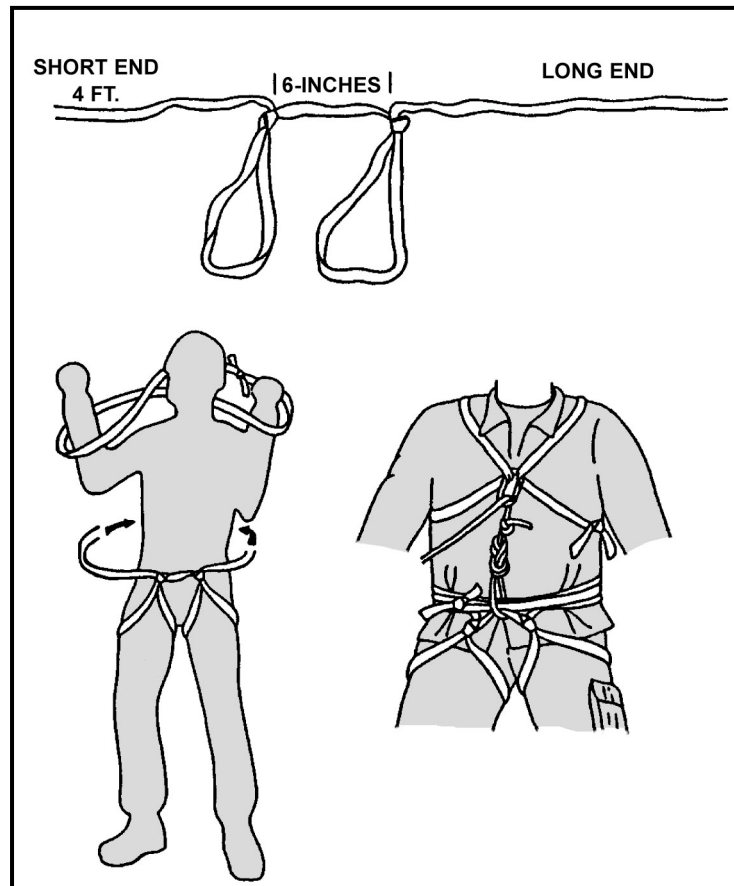

Figure 6-20. Improved seat and chest harness.
(2) The bowline-on-a-coil is a safe and effective method for attaching to the rope when the terrain is low-angled, **WITHOUT THE POSSIBILITY OF A SEVERE FALL**. When the terrain becomes steeper, a fall will generate more force on the climber and this will be felt through the coils of this type of attachment. A hard fall will cause the coils to ride up against the ribs. In a severe fall, any tie-in around the waist only could place a “shock load” on the climber’s lower back. Even in a relatively short fall, if the climber ends up suspended in mid-air and unable to regain footing on the rock, the rope around the waist can easily cut off circulation and breathing in a relatively short time.
(3) The climbing harness distributes the force of a fall over the entire pelvic region, like a parachute harness. Every climber should know how to tie some sort of improvised climbing harness from sling material. A safe, and comfortable, seat/chest combination harness can be tied from one-inch tubular nylon.
c. **Improvised Seat Harness.** A seat harness can be tied from a length of webbing approximately 25 feet long (Figure 6-20, page 6-30).
(1) Locate the center of the rope. Off to one side, tie two fixed loops approximately 6 inches apart (overhand loops). Adjust the size of the loops so they fit snugly around the thigh. The loops are tied into the sling “off center” so the remaining ends are different lengths. The short end should be approximately 4 feet long (4 to 5 feet for larger individuals).
(2) Slip the leg loops over the feet and up to the crotch, with the knots to the front. Make one complete wrap around the waist with the short end, wrapping to the outside, and hold it in place on the hip. Keep the webbing flat and free of twists when wrapping.
(3) Make two to three wraps around the waist with the long end in the opposite direction (wrapping to the outside), binding down on the short end to hold it in place. Grasping both ends, adjust the waist wraps to a snug fit. Connect the ends with the